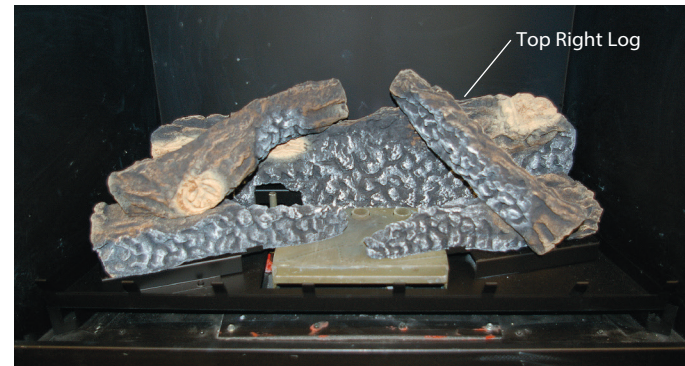

Figure 28e. Top right log placement.
Step 5. Place the top right log as shown in figure 28e. A notch is provided on the front right log, and a impression in the Rear bottom log.